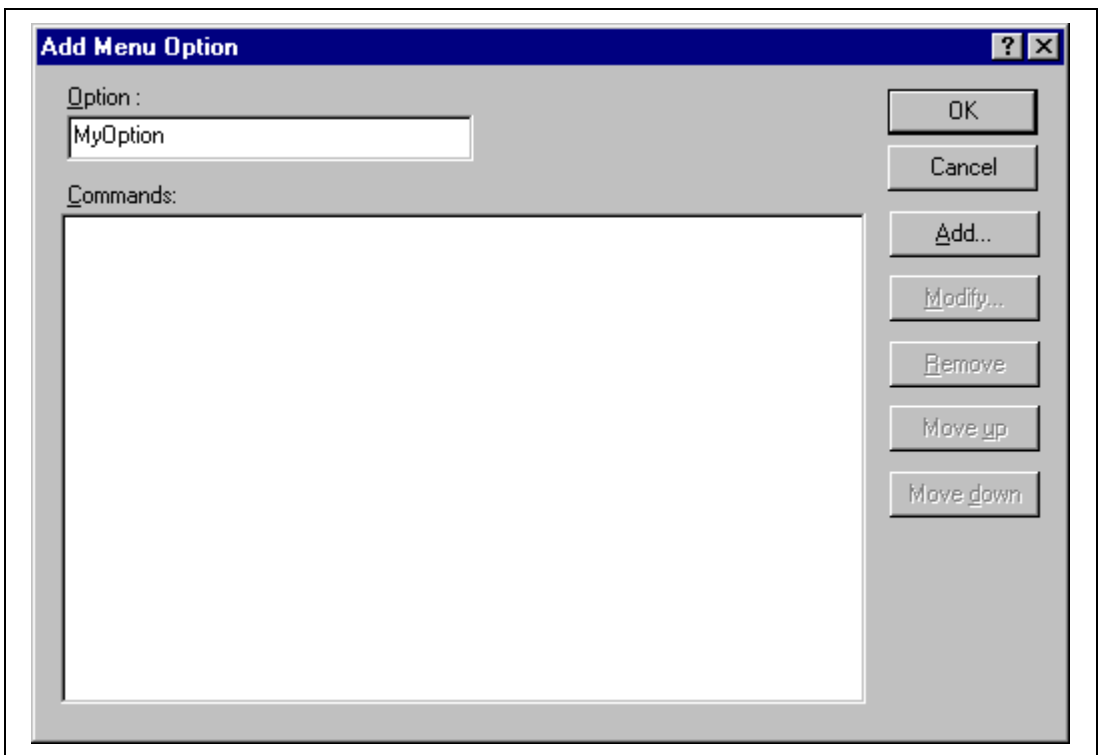

Figure 8.4: Add Menu Option Dialog
2. Click the “Add..” button. The dialog shown in * MERGEFORMAT figure 8.4 will be displayed.
2. Select the menu option to be modified from the “User menu options” list and then click the “Modify...” button beside the list. The dialog shown in * MERGEFORMAT figure 8.4 will be displayed. (The title of the dialog is “Modify Menu Option”.)